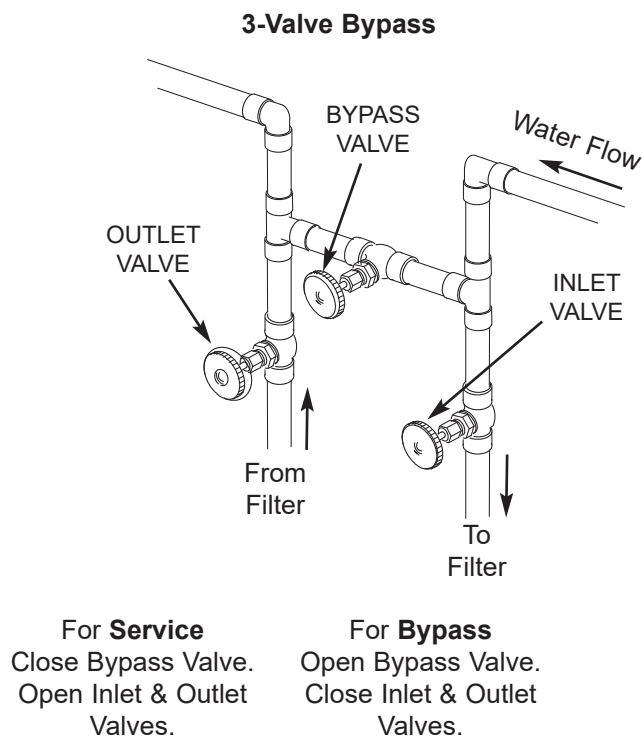

FIG. 93
3-VALVE BYPASS (See Figure 93)
4. Are plumbing bypass valve(s) in service position (See Figures 93 & 94 on Page 25)?